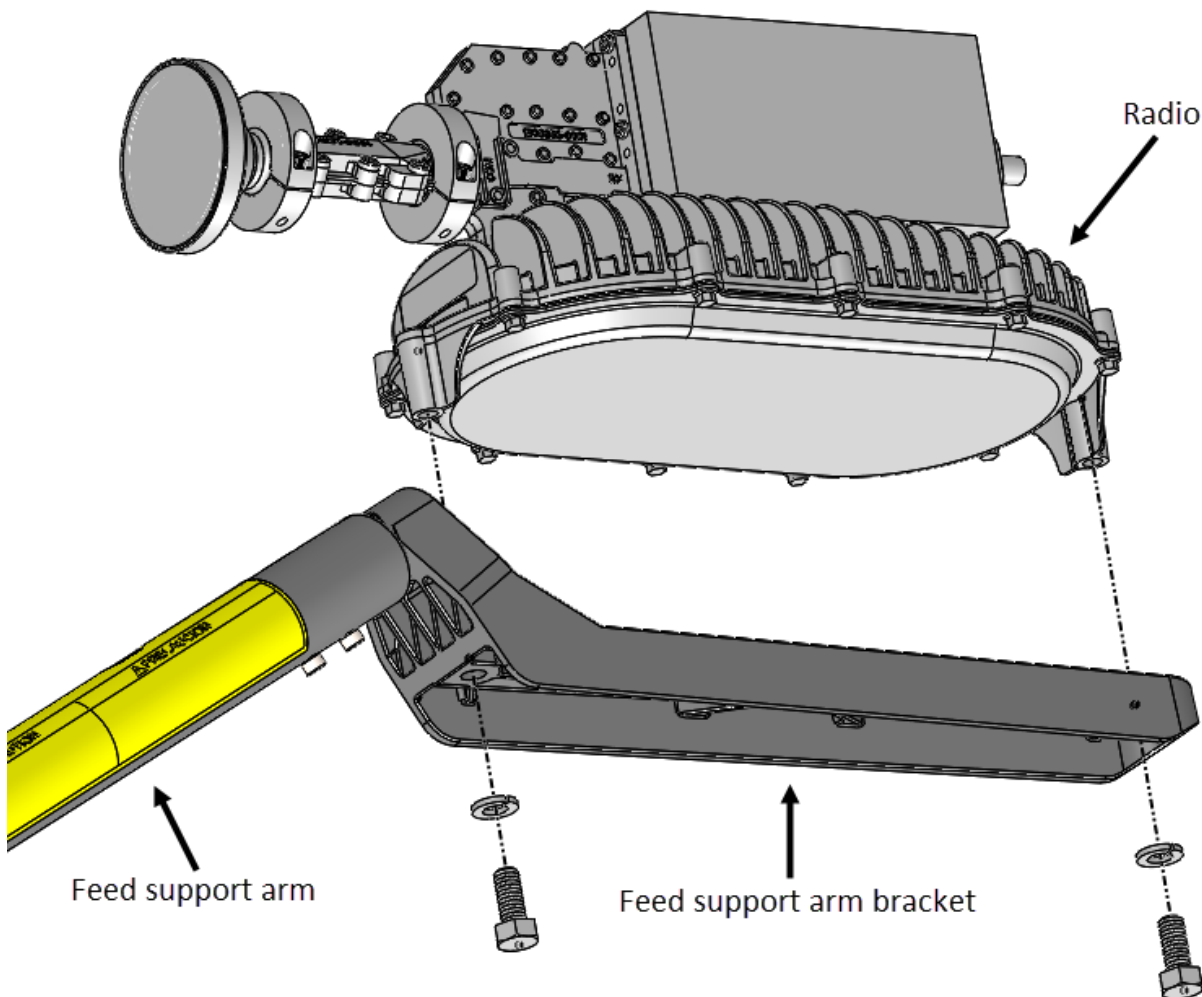

Figure 14: Attaching the radio assembly
1. As shown in Figure 14, position the radio assembly above the adapter bracket so that the waveguide end of the radio is nearest to the reflector.